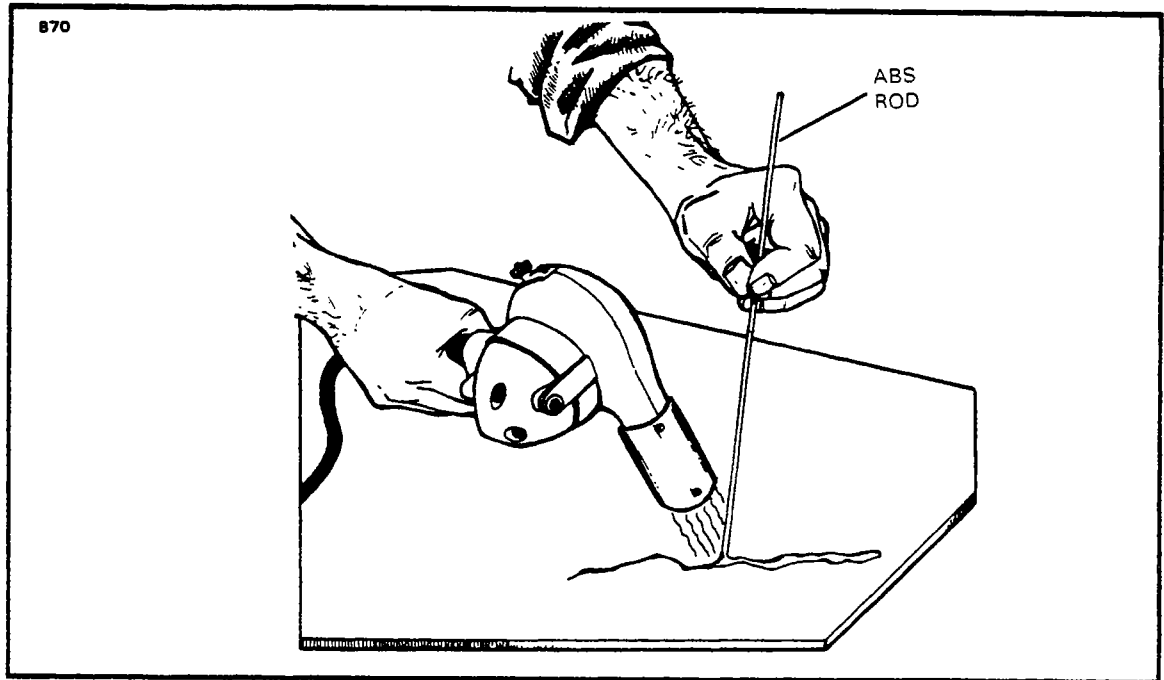

Figure 4-14. Welding Repair Method
10. This welding method requires a hot air gun and ABS rods. To weld, the gun should be held to direct the flow of hot air into the fusion (repair) zone, heating the damaged area and rod simultaneously. The gun should be moved continuously in a fanning motion to prevent discoloration of the material. Pressure must be maintained on the rod to insure good adhesion. (Refer to Figure 4-14.)